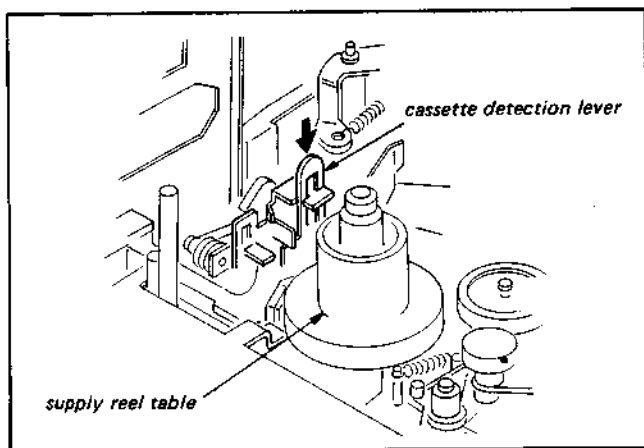

Fig. 1-6.
- Push down the cassette detection lever until the threading ring stops. (See Fig. 1-6.)